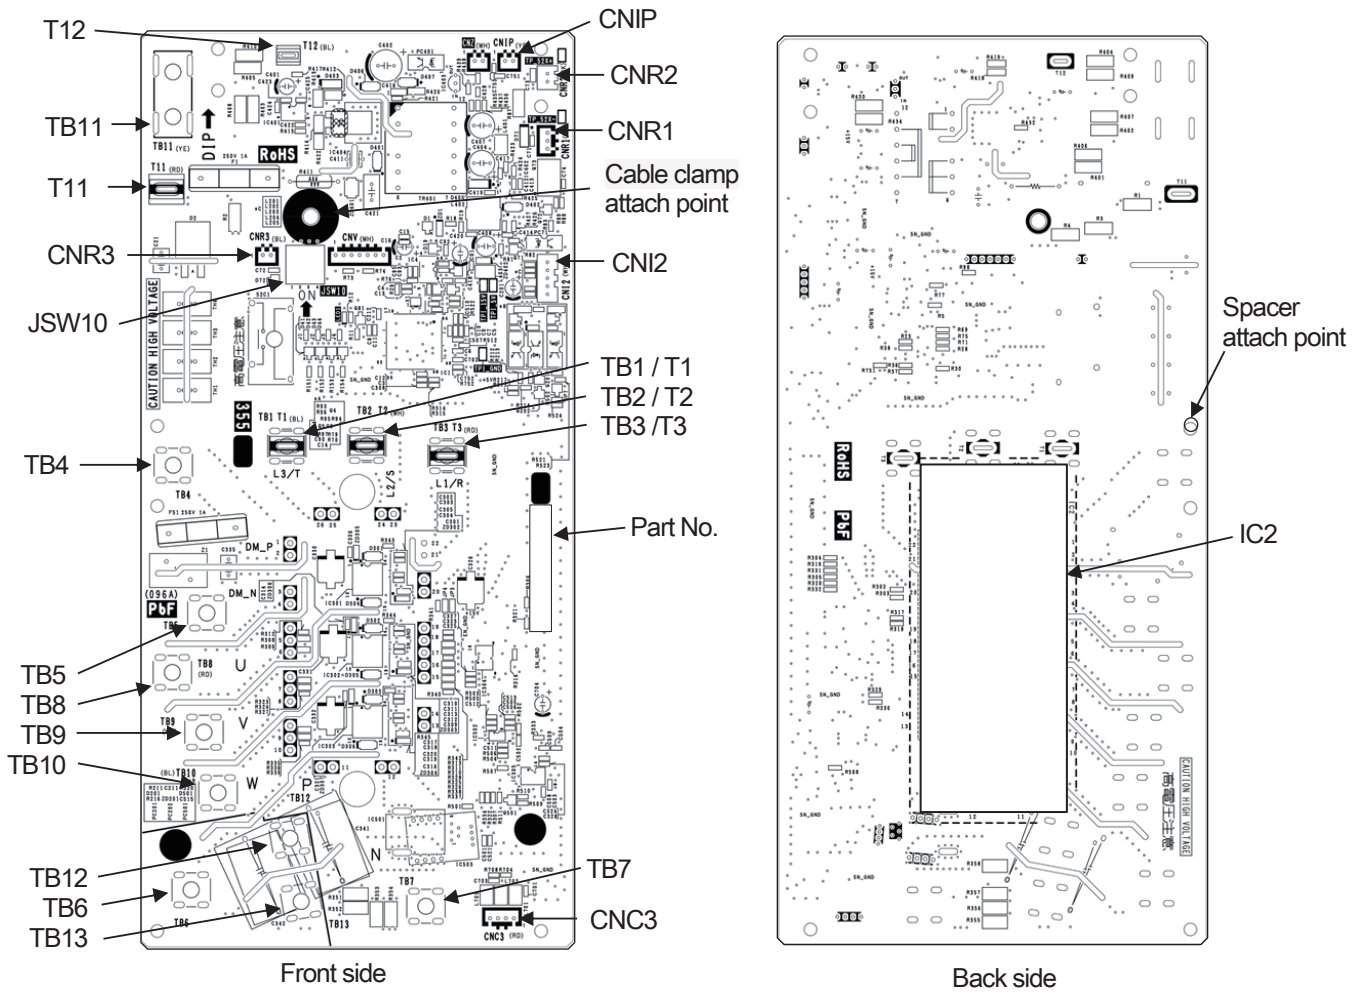

Fig.1 Parts arrangement
- Attach the cable clamp to new PCB front side and spacer to back side. (Refer to Fig.1.)